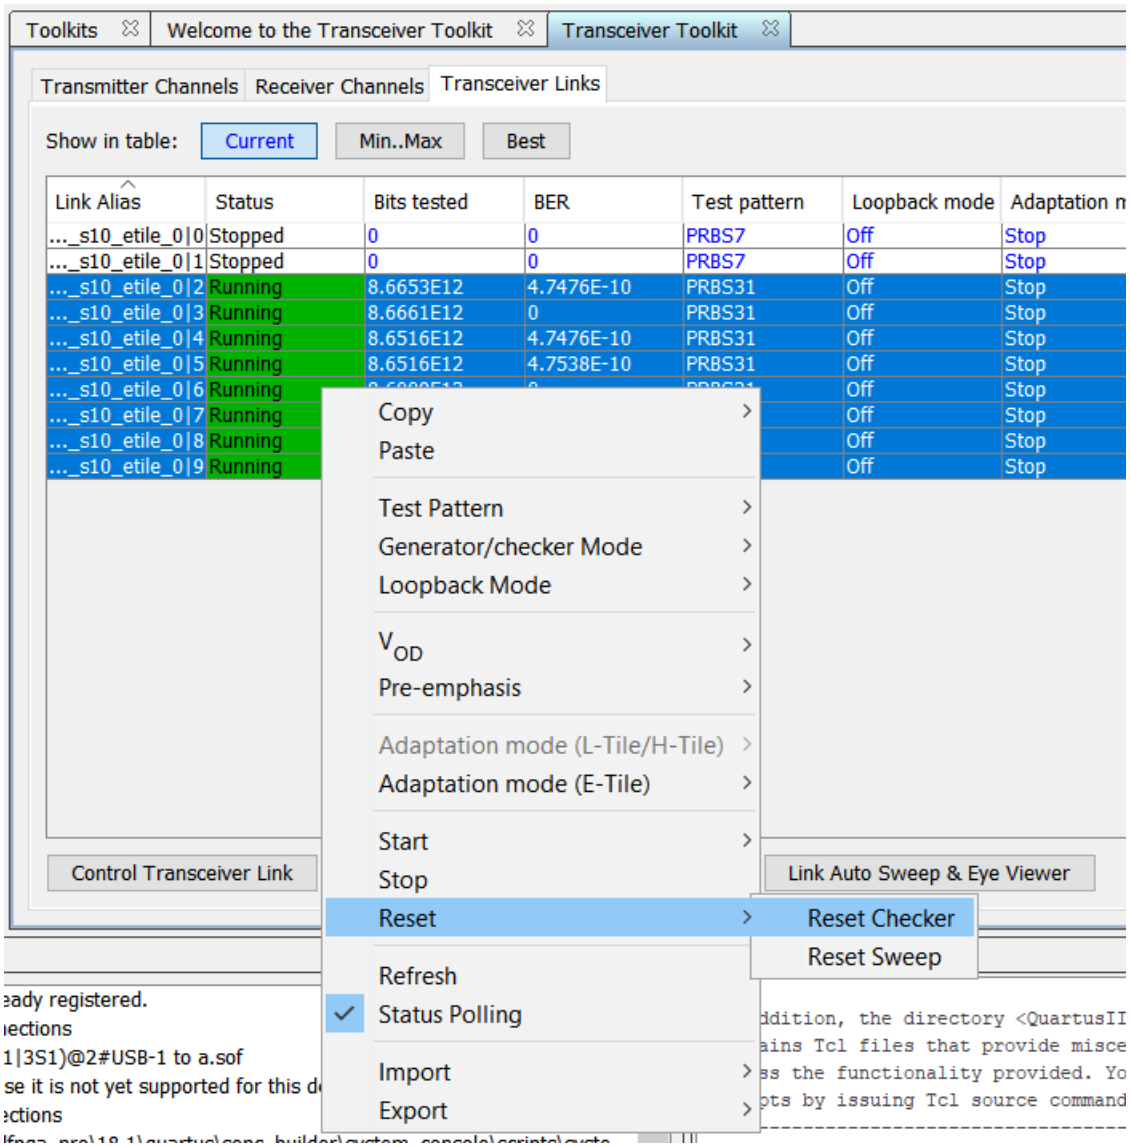

Figure 8. Resetting checkers
9. After the link test starts, you may observe some channels with initial BER. Reset the checkers by selecting the 8 PAM4 channels -> right click -> Reset -> Reset Checker as shown in Figure 8.